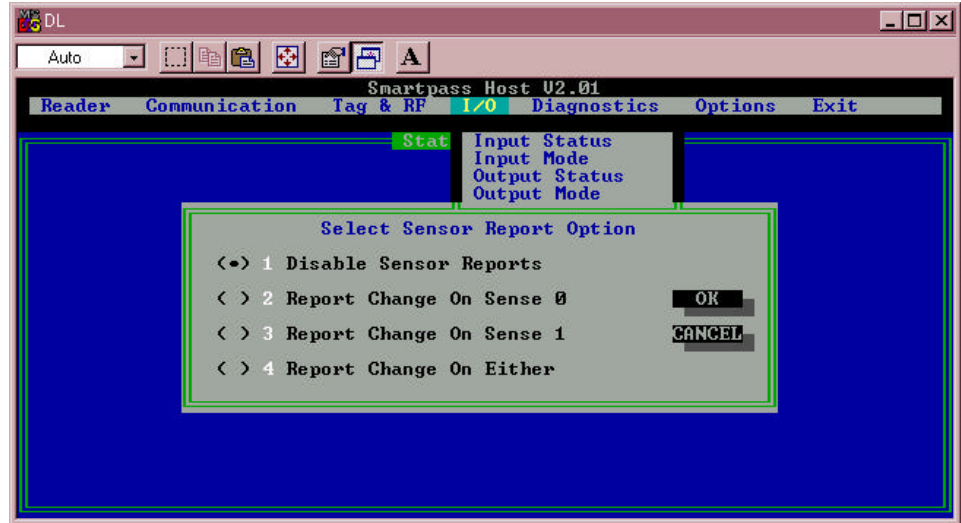

Figure 4-14 Select Sensor Report Option Dialog Box
3. Select the **I/O** drop-down menu and click the **Sensor Reports** option. Figure 4-14 illustrates the options for sensor reports.